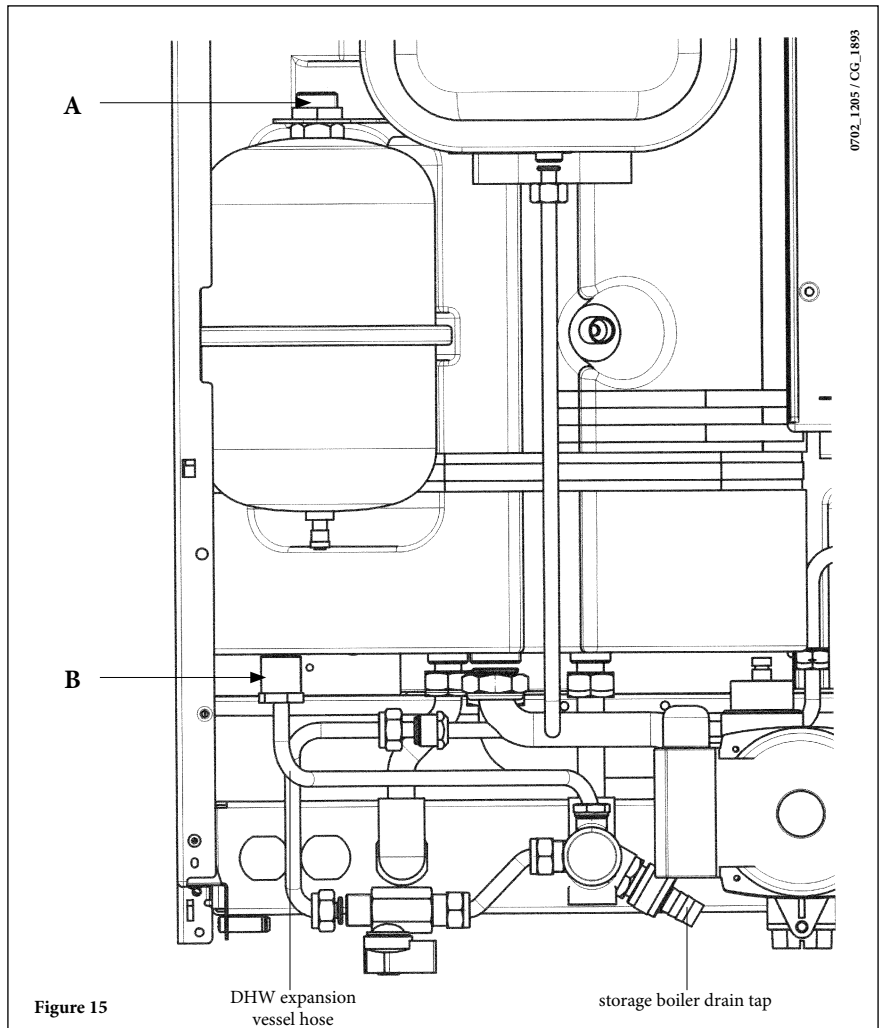

Figure 15
- unscrew the ring nut from the relative drain tap (Fig. 15);
Connect the hose (supplied as an accessory in the expansion vessel kit) to the two connectors A and B as shown in figure 15.